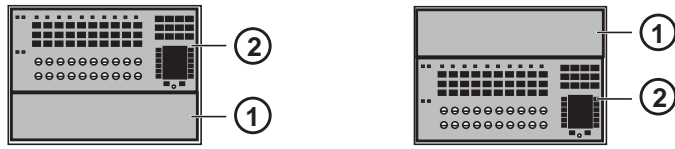

Figure 1. Mini Fill Panel installed in front of a Master Post Module (at left) or behind the module (at right)
- If you purchased a Mini Fill Panel (“1” in Figure 1) place it in the chassis first, then place the MPM (“2” in Figure 1) behind it. Optionally, install the MPM closest to the Bolster and install the Mini Fill Panel behind it.